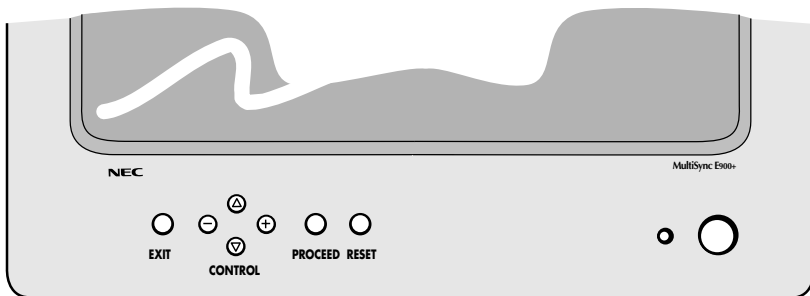

Figure D.1
6. Turn on the monitor (Figure D.1) and the computer.